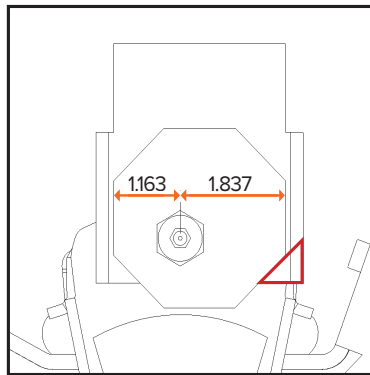

Figure 2 - Intermediate Setting*
NOTE: If the trailer is equipped with a Correct Track system, the **CRE3000** can only be installed using the center or intermediate positions of the dial (see Figures 1 and 2). When using the intermediate setting of the Correct Track dial, trim the corner of the hanger opposite the offset of the shoulder bolt on both the inside and outside of the hanger (the red area outlined in Figure 2). This must be done on the curbside as well as the roadside of the trailer.
*Both the intermediate and extreme settings can occur on either side of center. In Figures 2 and 3, the settings are shown as offset to the left, but they can occur as offset to the right, as well.